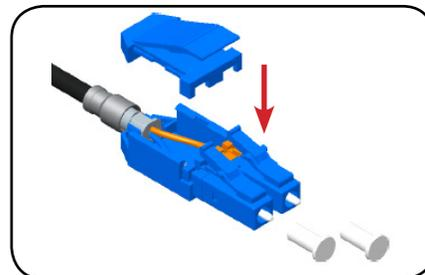

Figure 3
**Step 4:** Snap body cover onto lower half (**Figure 3**).